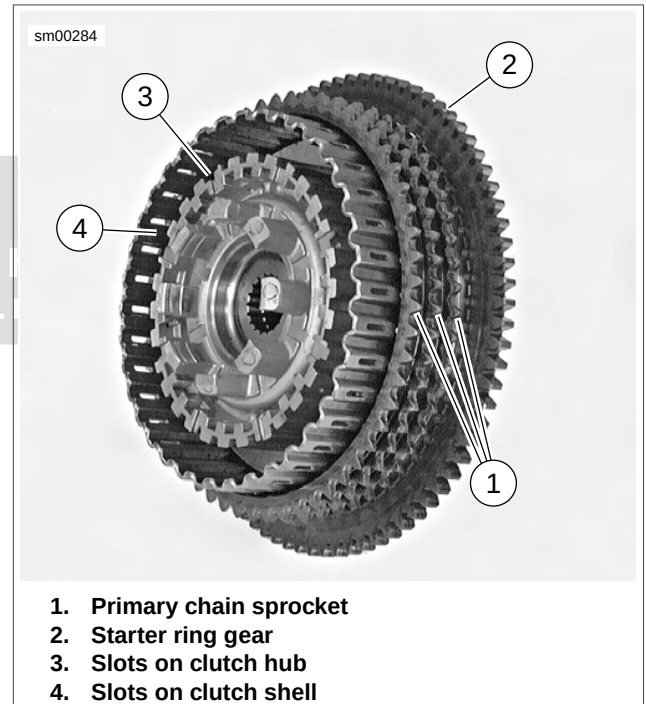

Figure 6-16. Checking Clutch Shell (Shell Removed from Primary Shaft)
6. See Figure 6-16. Inspect primary chain sprocket (1) and the starter ring gear (2) on the clutch shell. If either sprocket or ring gear are badly worn or damaged, replace the clutch shell. See 6.5 PRIMARY CHAIN.
7. Inspect slots that mate with the clutch plates on both clutch shell (4) and hub (3). If slots are worn or damaged, replace shell and/or hub. See 6.5 PRIMARY CHAIN.